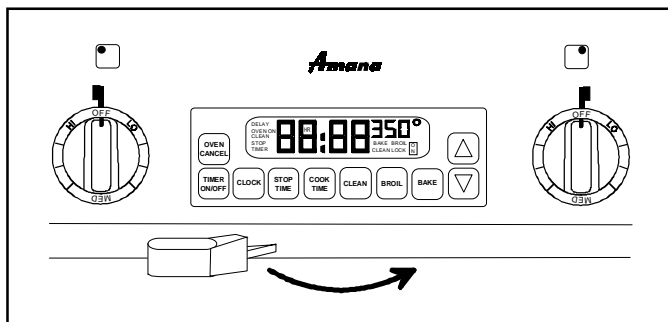

Figure 35
2. See Figure 35. Move Self-clean latch lever to right side to lock door.